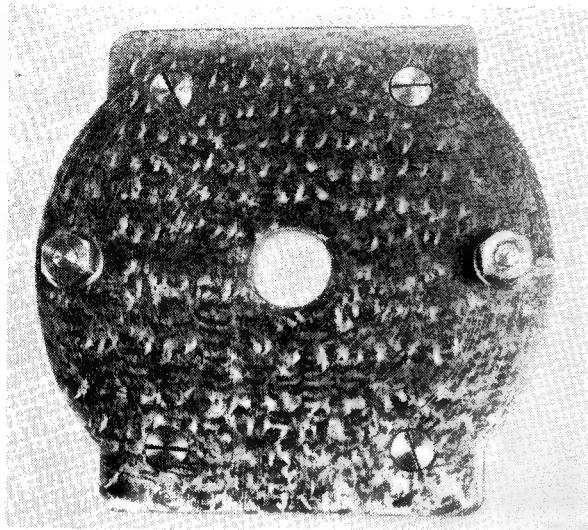
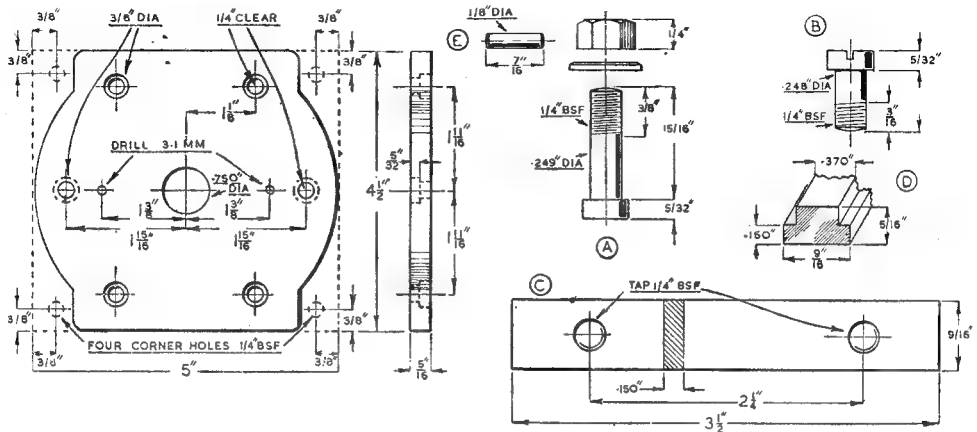

Fig. 9. The upper surface of the soleplate
Fig. 11. Working drawings of the soleplate and its parts
Reference to Figs. 9 and 10 should make clear the method of construction, and the dimensioned working drawings are given in Fig. 11.
The pin-drill is next employed to form the $\frac{3}{8}$ in. diameter recesses a few thousandths of an inch in excess of $5/32$ in. deep to receive all six screw heads. The four corner holes for the screws (B), Fig. 11, fixing the plate to the cross-slide, are opened out to $\frac{1}{4}$ in. clearing size, but the two remaining holes for the top-slide fixing bolts, (A), are drilled with a letter D-drill and
then partially reamed to make the screws a press fit in the plate. The two sets of fixing screws are turned in accordance with the drawings (A) and (B), Fig. 11.
form shown in Fig. 11 (D), and ■ greater length of thread engagement will then be obtained.